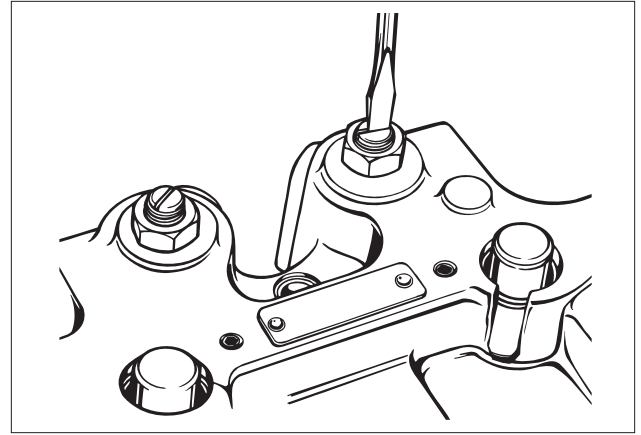

FIG. 35
1. Loosen slave piston adjusting screw locknut and remove adjusting screw from housing (Fig. 35).